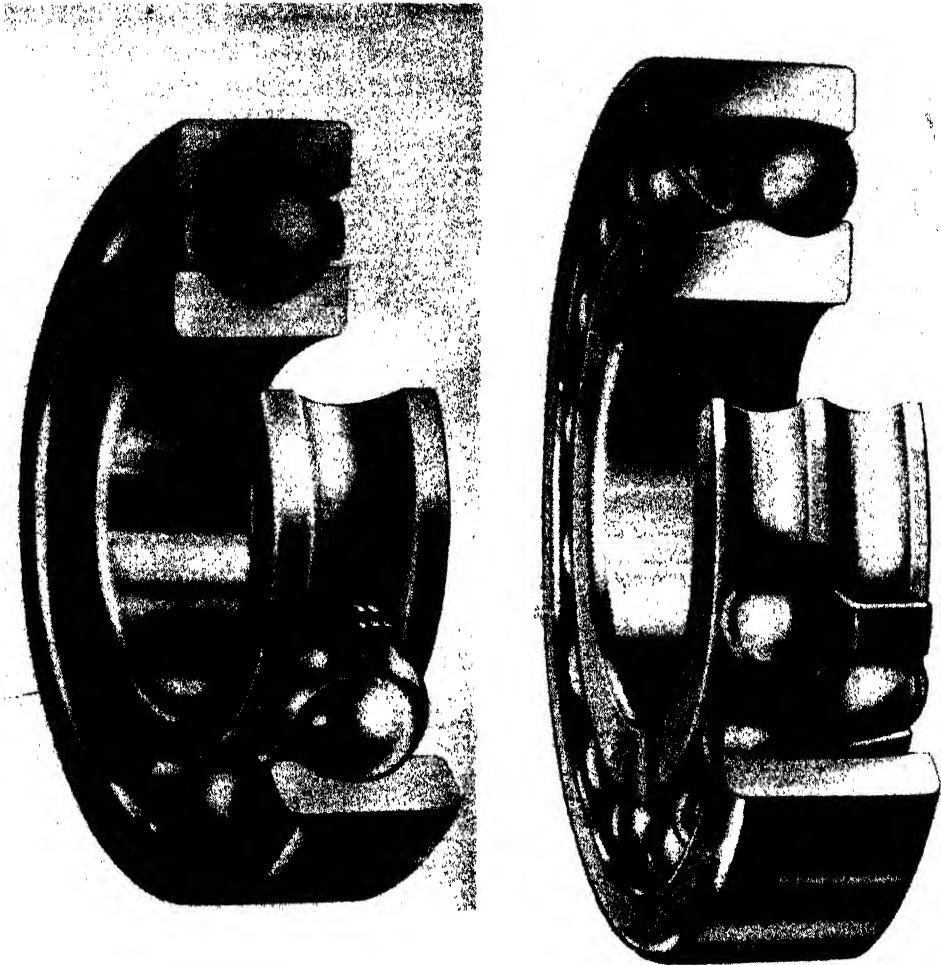

FIG. 54C. (Courtesy S. K. F. Industries, Inc.) FIG. 54D. (Courtesy, S. K. F. Industries, Inc.)
1. The Single Row Deep Groove Ball Bearing sometimes referred to as the Conrad type. (See Fig. 54C). This bearing is designed with deep un-